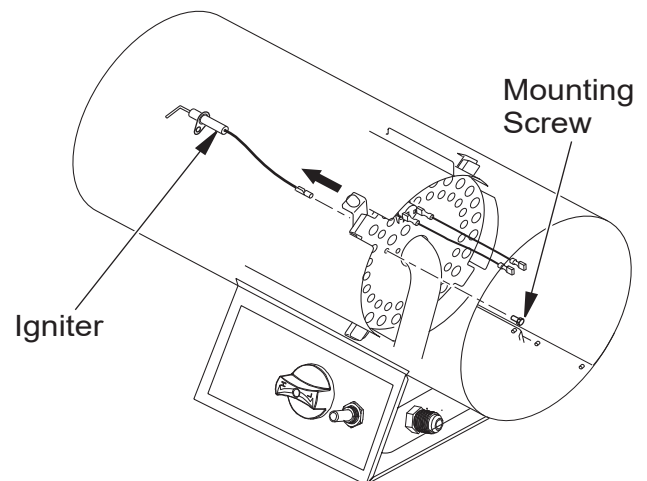

Figure 9 - Removing Igniter Mounting Screw and Igniter
6. Set gap between igniter electrode and target plate to 0.17" (43.18 cm) (see Figure 9).
No spark at igniter. To test for spark, follow step 7 under Igniter , page 9. If you see spark at igniter, have heater serviced by qualified service person. If no spark seen: A) Loose or disconnected igniter wire B) Wrong spark gap	A) Check igniter wire. Tighten or reattach loose igniter wire. See Figure 9, page 9 for igniter wire location B) Set gap between igniter electrode and target plate to 0.17" (0.43 cm)